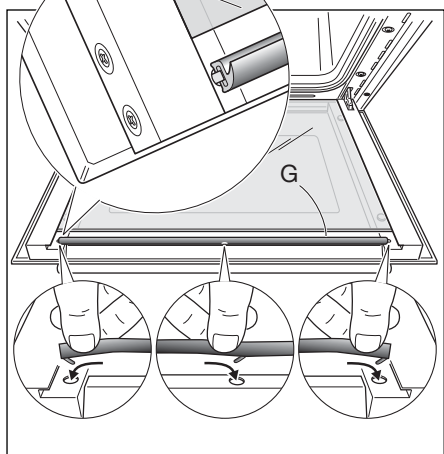

Fig.50e
- Replace the seal "G" by hooking in the three fixing hooks. Make sure that you put it in the correct way (Fig. 50e)\*.